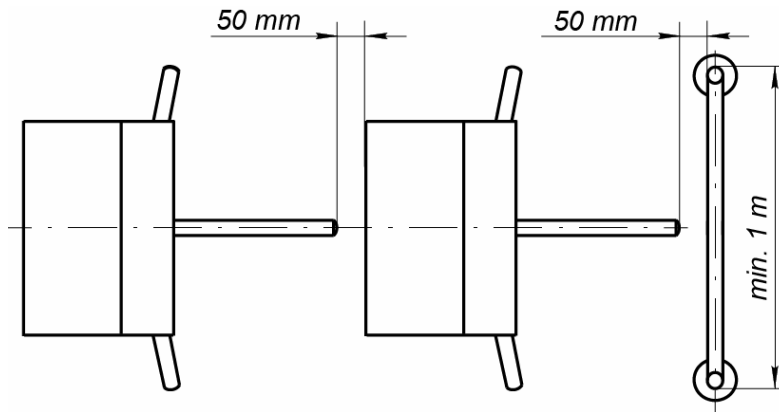

Figure 11. Site preparation. Recommendations
- to organize the passage zone according Fig. 11;
To ensure accurate passage tracking, when the turnstile is operated from an ACS, it is recommended to create the passage area in such a way that the barrier arms should turn in the direction of movement at the angle no less than 70° (Fig. 11).